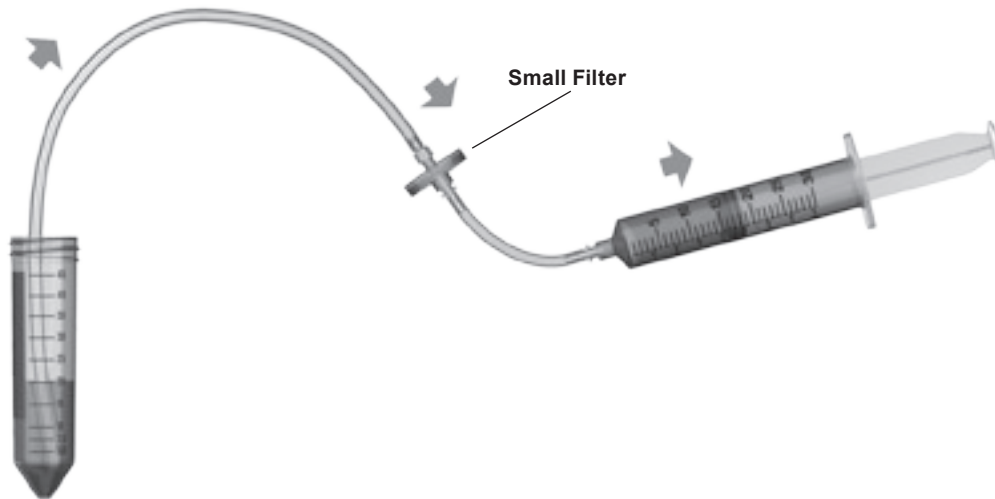

Figure 4
- Reassemble the tubing assembly, SMALL filter, and syringe per **Figure 4**